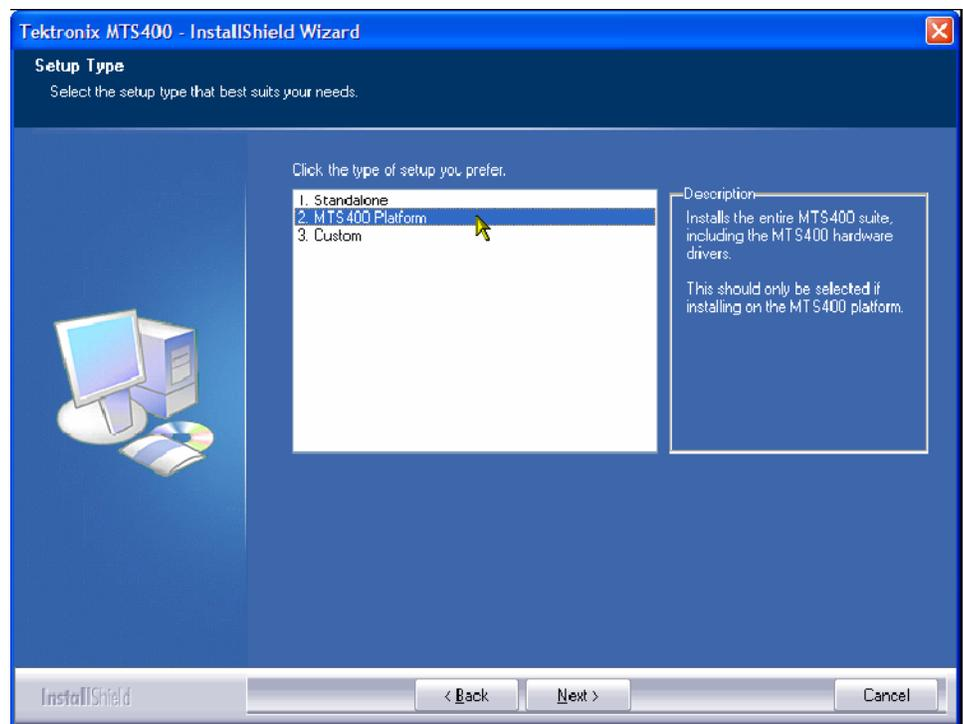

Figure 20: MTS400 Installation - Setup Type
- If you have installed Option GBE the Setup Type dialog box will be displayed, which allows you to select the type of installation (see Figure 20). Continue to step 5.